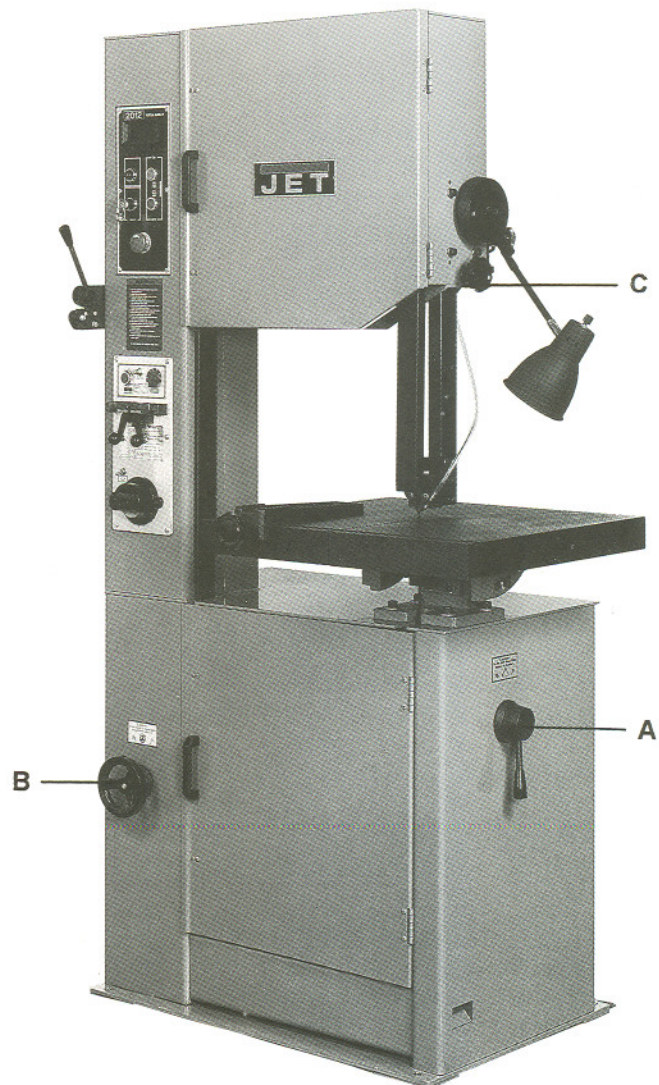

Fig. 2
**Low/High Range Shift Lever - (A, Fig. 2)** - located on right side of machine base. Pull toward the front of the machine to shift into the low speed range. Push toward the rear of the machine to shift into the high speed range. **Caution:** Do not change the speed range while the machine is running. Adjust only when the machine is stopped.
**Variable Speed Hand Wheel (B, Fig. 2)** - located below work table on left side of machine base. Turn clockwise to increase speed and counter-clockwise to decrease speed. **Caution:** Do not turn handle while machine is stopped. Adjust speed only when machine is running.
**Upper Blade Guide Lock Knob (C, Fig. 2)** - located on right side of upper arm. Turn counter-clockwise to loosen and clockwise to tighten.